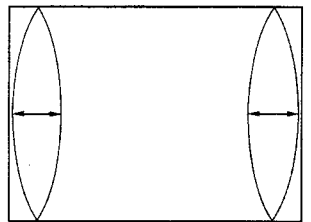

fig. 7
- d) Adjust the East/West 1 to obtain condition as in fig. 7.